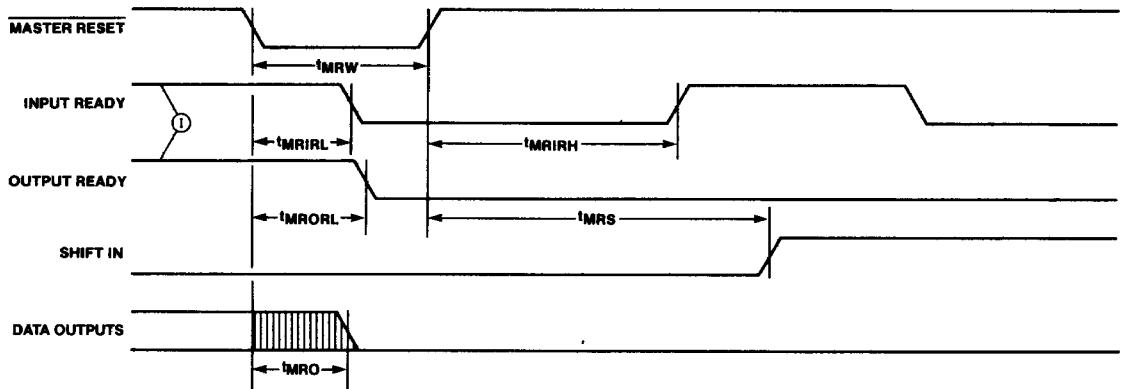

Figure 10. Master Reset Timing
After power up the Master Reset is pulsed low (Figure 10) to prepare the FIFO to accept data in the first location. Master Reset must be applied prior to use to ensure proper operation. When Input Ready (IR) is HIGH the first location is ready to accept data from the D_x inputs. Data then present at the data inputs is entered into the first location when the Shift-In (SI) is brought HIGH. A SI HIGH signal causes the IR to go LOW. Once data is entered into the first cell, the transfer of data in any full cell to the adjacent (downstream) empty cell is automatically activated by an on-chip control. Thus data will stack up at the end of the device (while empty locations will "bubble" to the front when data is shifted out). t_{PT} defines the time required for the first data to travel from input to the output of a previously empty device. When SI is brought LOW and the FIFO is not full, IR will go HIGH, indicating more room is available. If the memory is full, IR will remain LOW.